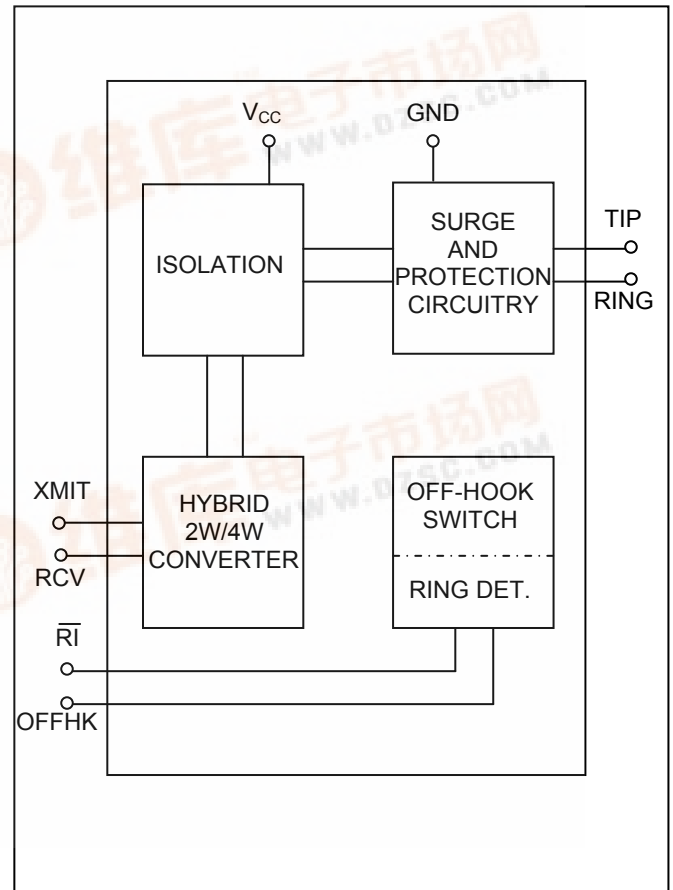

Figure 1. CH1817 DAA Functional Block Diagram.
**Ring Detection.** Referring to the block diagram in Figure 1, incoming ring detection is performed by the CH1817 and the RI pin is set Low during the 2 second (typical) ring period and is restored to High for the 4 seconds (typical) between rings. During incoming ring signal activity, the RI output is pulsed at the same frequency as the ringing signal, typically 20Hz. Figure 2 contains additional external circuitry which may be used to provide an envelope indication of the ring signal. The internal ring detection circuit is designed to deter false indications due to pulse dialing or noise on the line.